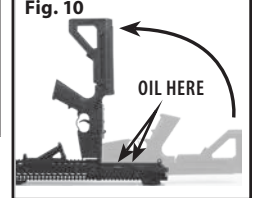

Fig. 11
- Pull out the charging handle just enough to expose the O-ring in the seal on the bolt and the opening of the blow back housing. Apply one drop of RMCOL to these two spots (Fig. 11).